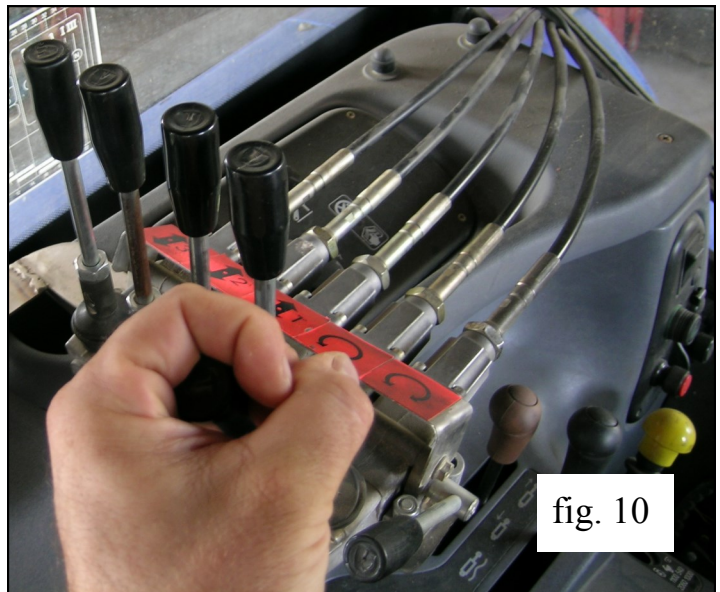

fig. 10
This reeler unrolls and rolls up flat hose hydraulically (fig.10).
- By the lever, see figure 10, change the reel rotation speed.
By the lever, see figure 10, change the reel rotation speed. Drive the tractor back at a suitable speed, by moving in turn on the right and on the left in order to roll the hose uniformly on the reel drum. (fig. 17).